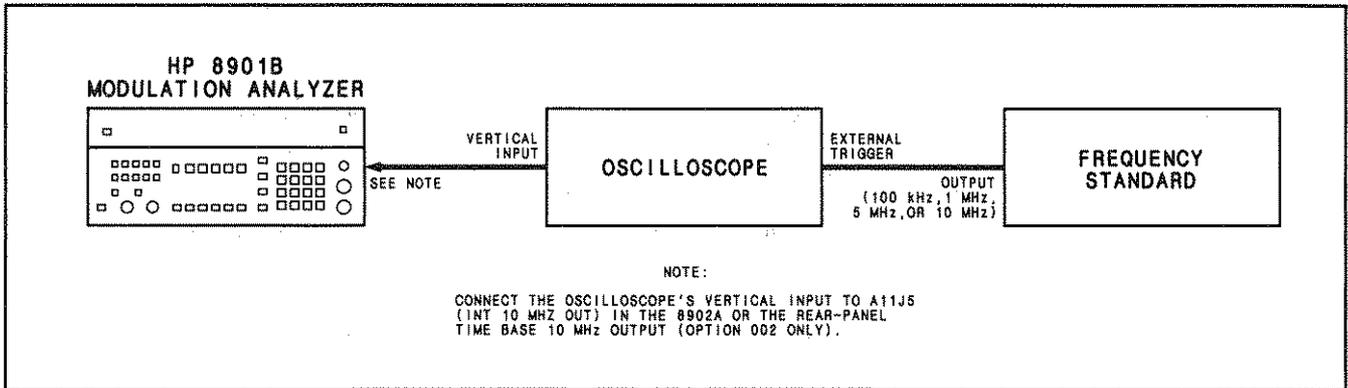

Figure 5-1. Internal Reference Frequency Adjustment Test Setup
1. Connect the equipment as shown in Figure 5-1. Allow the equipment to warm up for 15 minutes. For Option 002, a warm-up of the Modulation Analyzer of several days with covers on is recommended.